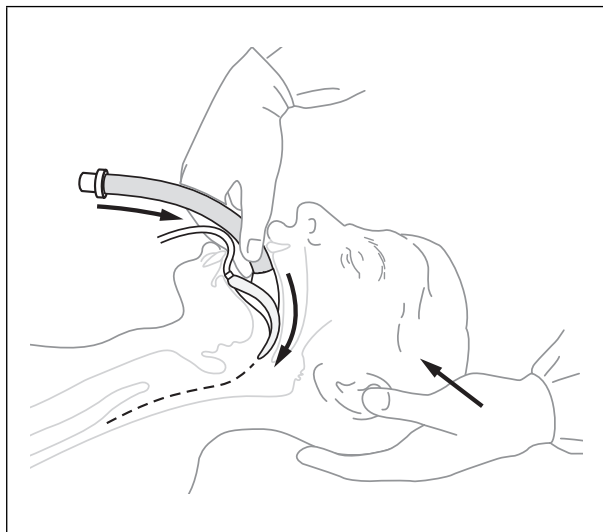

Figure 4
- As the mask moves downwards, the index finger maintains pressure backwards against the posterior pharyngeal wall to avoid collision with the epiglottis. Insert the index finger fully into the mouth to complete insertion (**Figure 4**). Keep other fingers out of the mouth. As insertion progresses, the flexor surface of the whole index finger should lie along the tube, keeping it firmly in contact with the palate. (**Figure 4**).